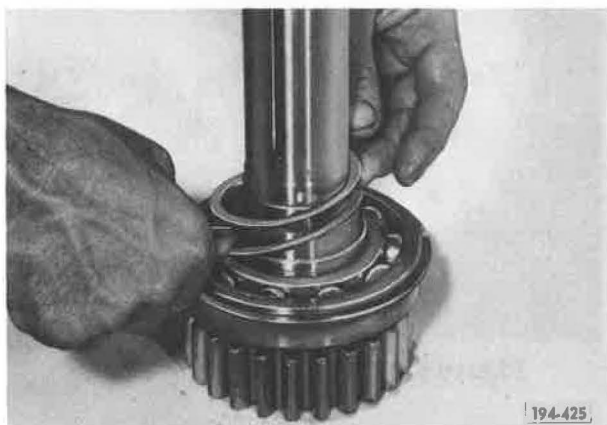

Figure 5-739. Removing Snap Ring
1. Remove bearing retaining spirollox snap ring. See **Figure 5-739**.